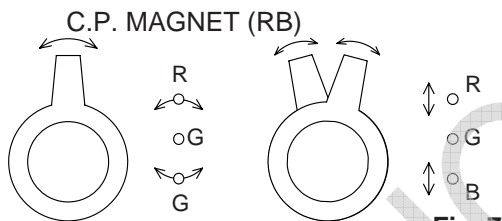

Fig. 7
1. Loosen the Ring Lock and align red with blue dots or crosshatch at the center of the screen by rotating (RB) C.P. Magnets. (See Fig. 7)